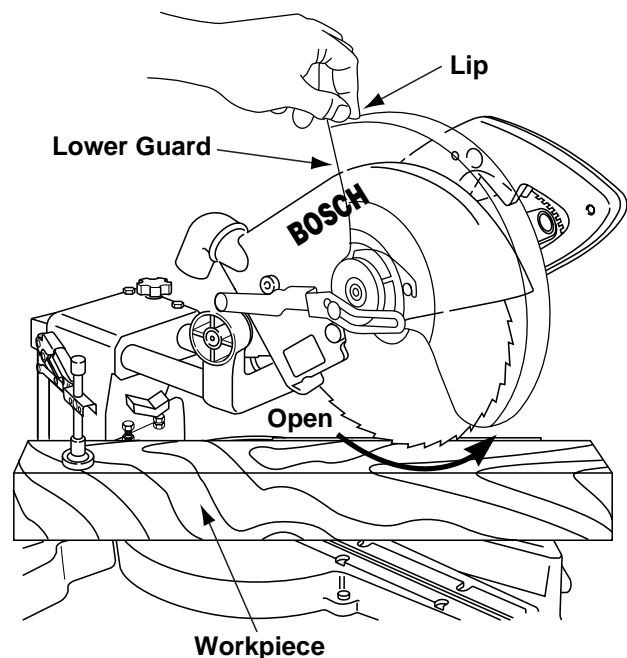

Figure 19. Raising Lower Guard
- Workpiece must be securely clamped. This frees a hand to raise the guard by the lip just enough to clear the workpiece (Figure 19).